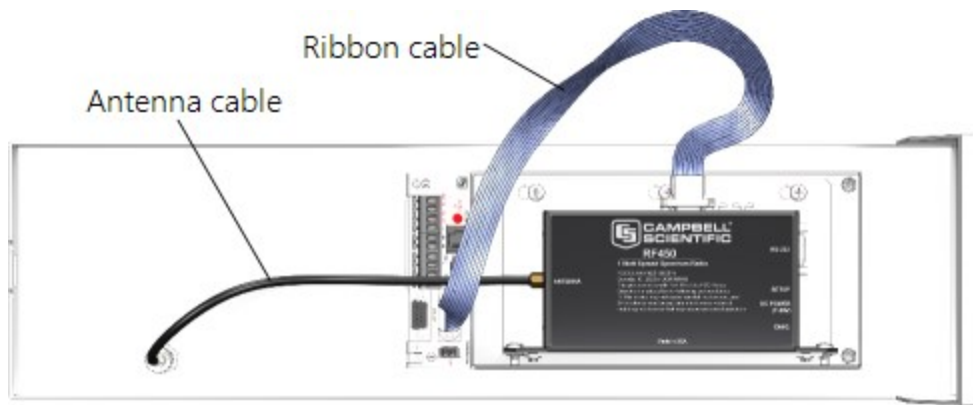

FIGURE 6-26. Radio mounted in the ET107 (battery not shown)
1. Mount the bracket and radio inside the enclosure using the three existing screws (FIGURE 6-26 (p. 45)).
3. Attach the other end of the cable to the BNC RF bulkhead connector in the lower right corner of the enclosure. Make sure all connections are tight (FIGURE 6-26 (p. 45)).